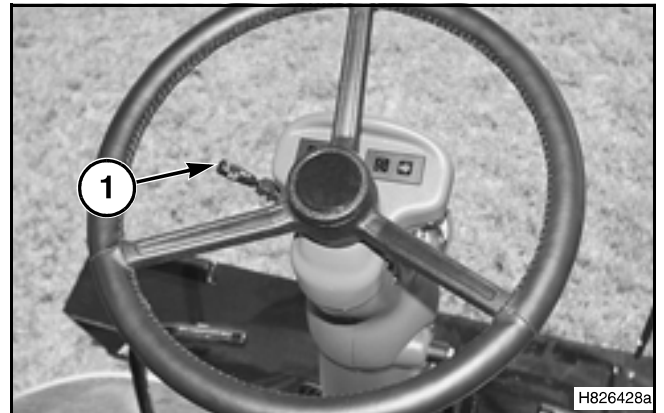

FIG. 5
FIG. 5: Moving the turn signal switch lever (1) to the rear position signals a left turn. Moving the turn signal switch lever to the forward position signals a right turn.